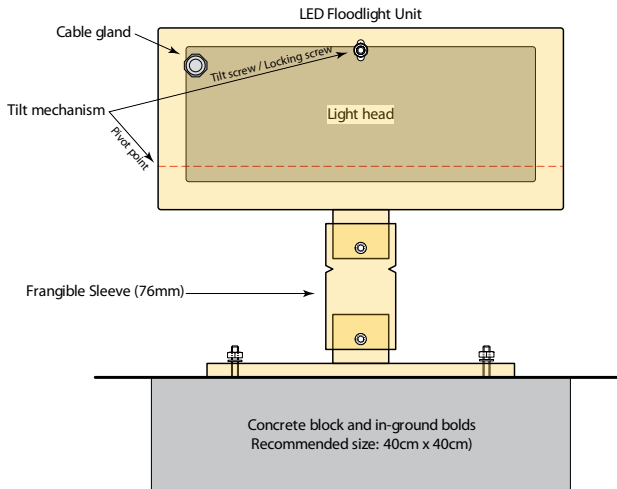

Figure 6. Tilt mechanism
- Loosen the two nut screws at the back of the LED Floodlight Unit (please refer to Figure 6)